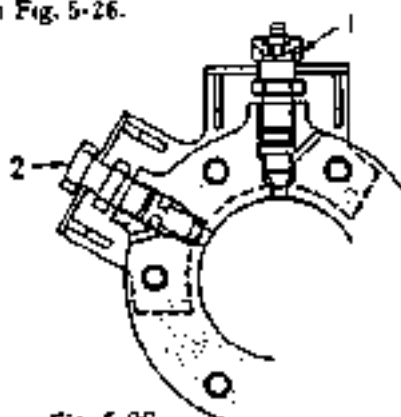

Fig. 5-26
In order to relax the track tension, extract grease by reversely rotating the plug(2) for one turn. Do not loosen the plug(2) over one complete turn. Also, be careful not to loose any part other than the plug(2), so as to prevent the high-pressurized grease ejecting out and incident happening. If the grease does not ooze smoothly, try to move the machine back and forth for a short distance, as shown in Fig. 5-26.